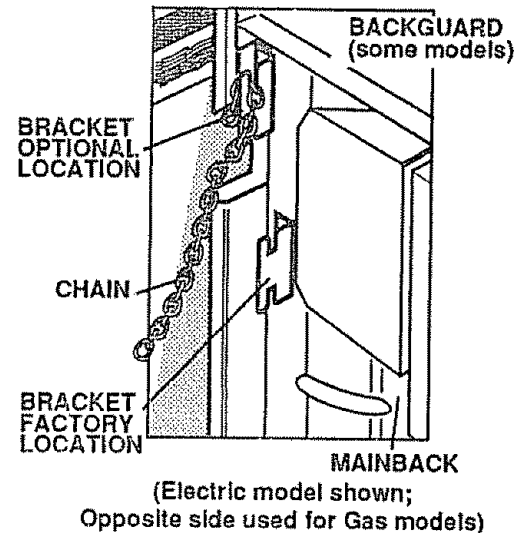

Fig. 1
- 1) Before placing the range in the counter, notice the location of the stability bracket that is attached to the back of the range. This location should work for most installations. However, it may be more convenient to hook the stability chain to the range when the stability bracket is attached to the upper set of holes in the back of the range (See Fig. 1). The upper set of holes are intended for use with a backsplash kit. If a backsplash kit is being used, the stability bracket can be relocated and put on at the same time as the backsplash kit. If the backsplash is not being used, make sure that there are no countertop structural supports which will interfere with the stability bracket when located in the upper set of holes.
- 5) Hook the loose end of the chain onto the bracket by slipping the nearest link of the chain into the slot in the bracket (See Fig. 1). Make sure the chain is pulled as tight as possible and that there is no excess slack in the chain when it is attached to the bracket.